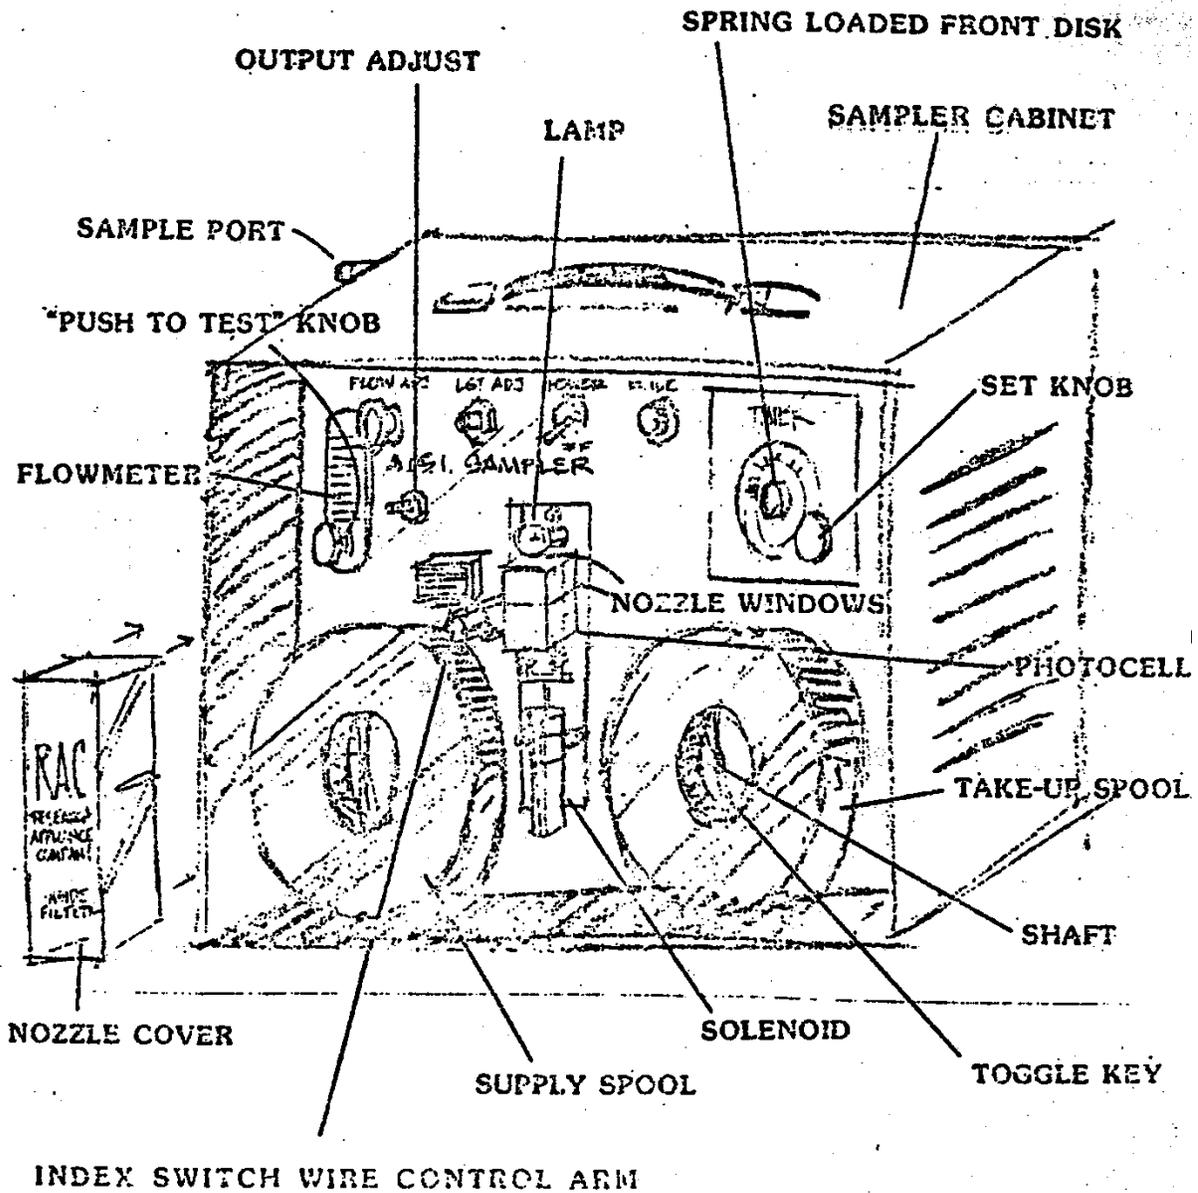
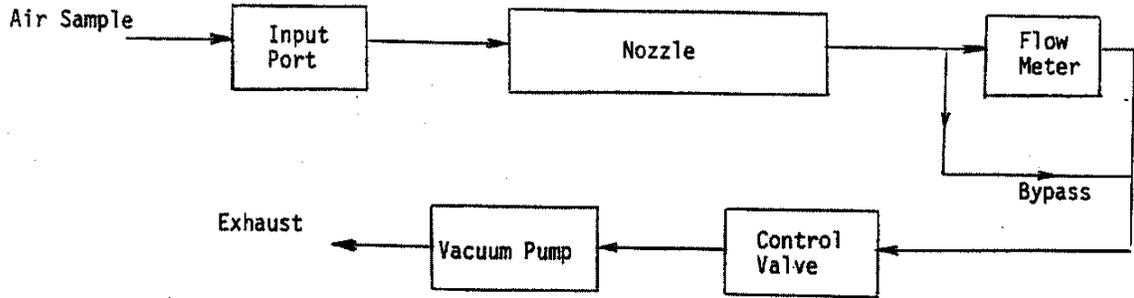
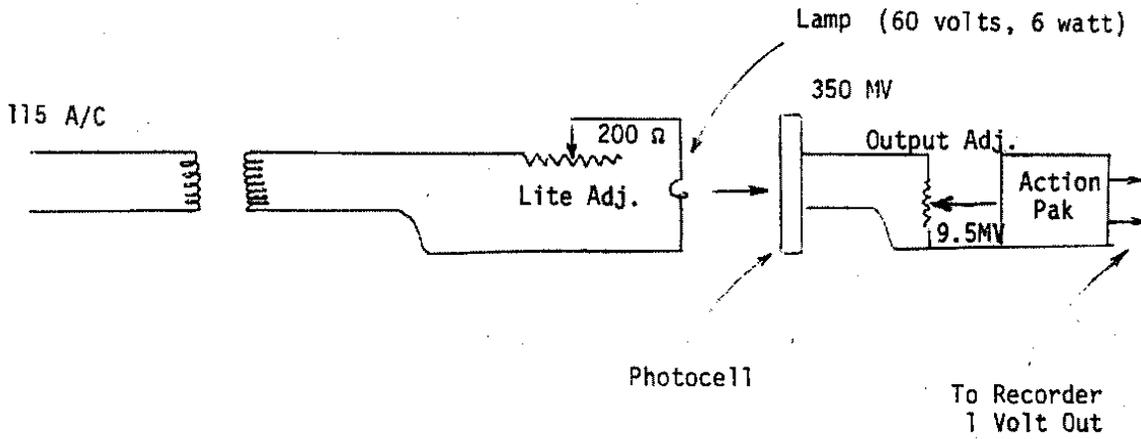

Figure K.1.0.1
Figure K.1.0.2
Figure K.1.0.3
The AISI chassis is 14 - 1/4" wide x 11" high x 11 - 1/2" deep. Figure K.1.0.1 is an illustration of the AISI tape sampler. Figure K.1.0.2 shows the sample flow diagram. The AISI draws 6.25 liters per minute of ambient air sample into an inlet tube. This sample passes through the inlet tube to a nozzle which holds a section of filter paper. The filter tape periodically advances to a clean section to collect a new sample spot. A light source is located above the filter tape and a photocell below the filter tape. As the filter tape collects particles, it darkens and decreases the amount of light transmitted through the filter tape to the photocell. The opacity of the sample spot is determined by transmittance of light through the filter tape. The photocell output is amplified by the action pak signal conditioner. Figure K.1.0.3 shows the AISI electrical diagram. Table K.1.0.1 relates the percent transmittance to COHs per 1000 linear feet of ambient sample for a flow rate of 6.25 liters per minute and does not hold for other flow rates.
- K.1.1.6 TIMER ADJUSTMENTS - For on the hour automatic sampling, pull forward on the front timer disc and turn it so that the two hour normal sampling period interval hole will engage the red drive pin (see Figure K.1.0.1). Turn the set knob clockwise until the notches of all three discs are in alignment under the switch control are. Turn power ON, on the hour. Now the timer is set to activate the switch control arm and advance the tape every two hours.